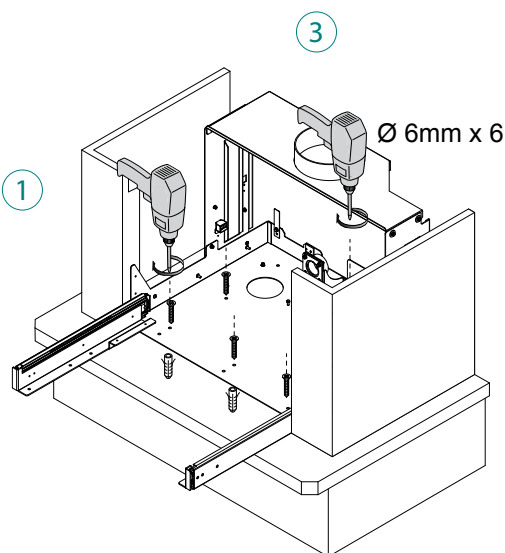

fig. 6.1.9
- 9) Insert 6 mm pegs into the holes that were made and fasten the load-bearing structure with screws. (3) - (fig. 6.1.9).